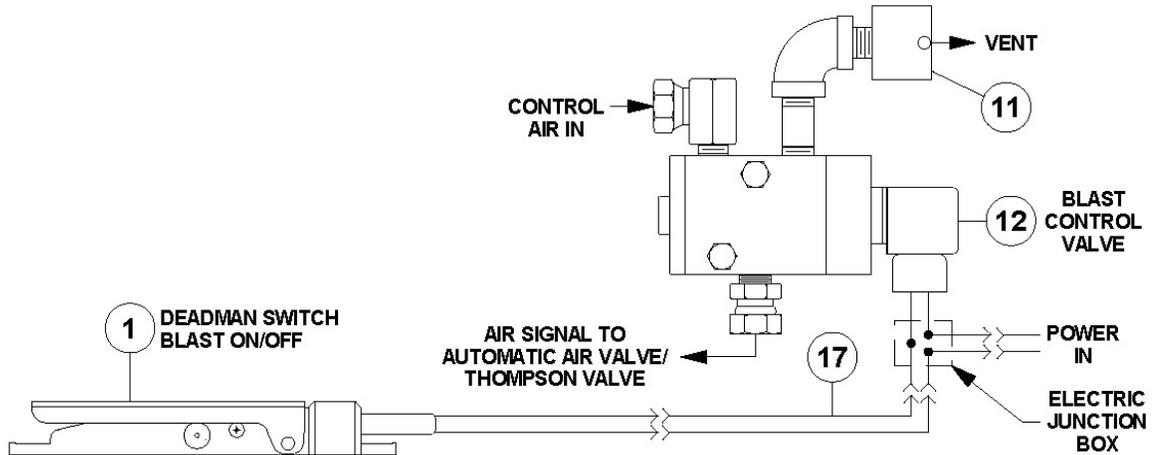

Figure 5.4 – Electric Blast Control System
5.10.2. Electric Deadman System: When the electric deadman lever is pressed down it closes the electric circuit and supplies electric current to the control valve (#12). The control valve opens and sends air signals to the auto air valve (#10) and the Thompson® Valve (#13). When the deadman lever is released the electric circuit is cut off closing the control valve. The signal air vents from the breather (#11). See Figure 5.4 and the drawing in Section 9.2.